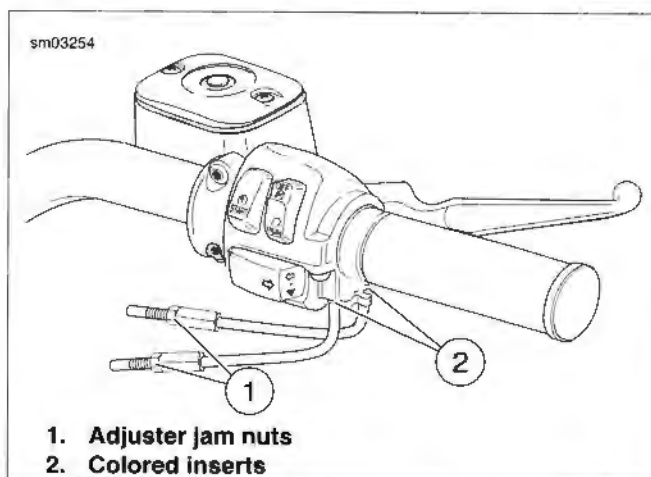

Figure 2-89. Handlebar Throttle Control
1. See Figure 2-89. Loosen cable adjuster jam nuts (1). Screw throttle cable adjuster until it is as short as possible. Remove the two screws that hold the handlebar housing together to separate the upper and lower housings.